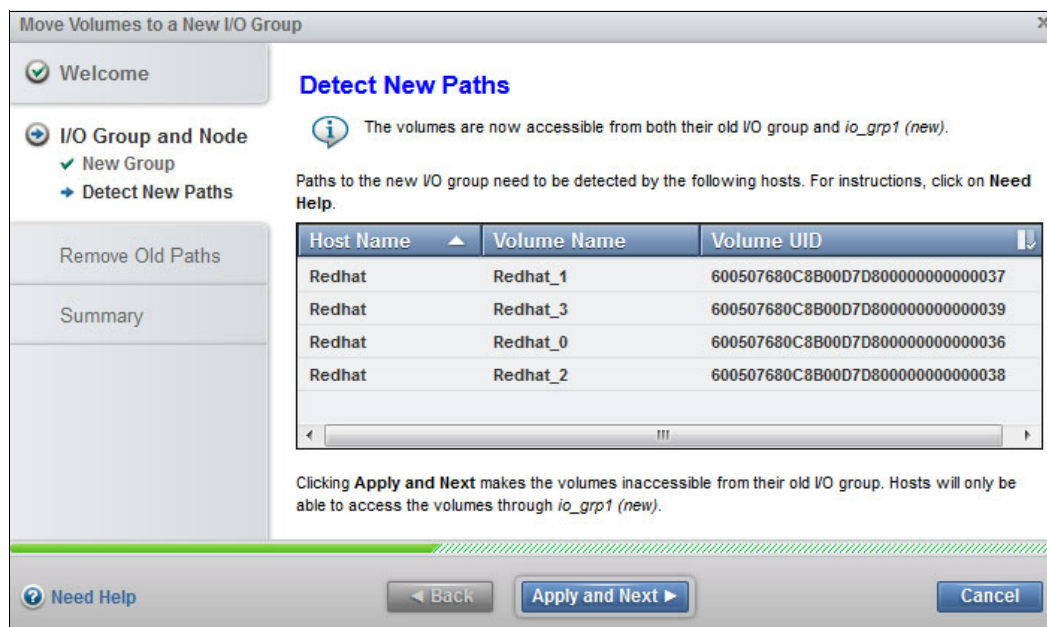

Figure 5-72 Detect new paths
3. The system now maps the volumes to the new I/O group while, at the same time, keeping them in the first I/O group. The host now has to discover the new paths, so you must perform path discovery from the host side before continuing to make sure that the host has appropriate access to its volumes on the new paths. After new paths are detected, click **Apply and Next** (Figure 5-72).